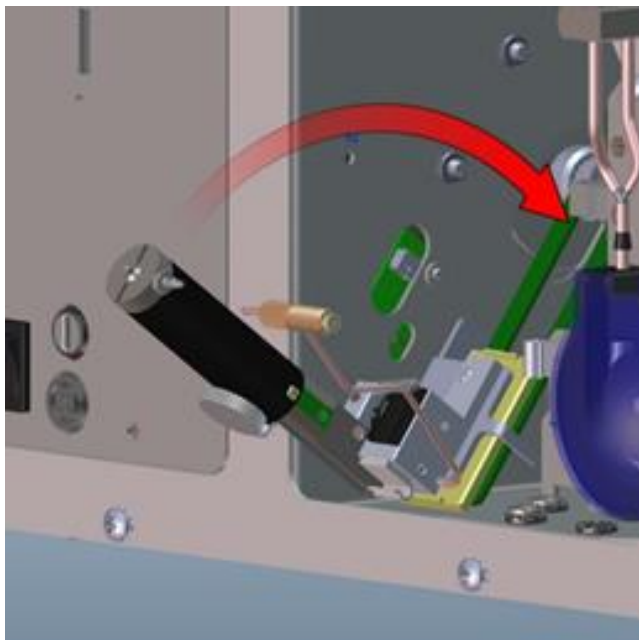
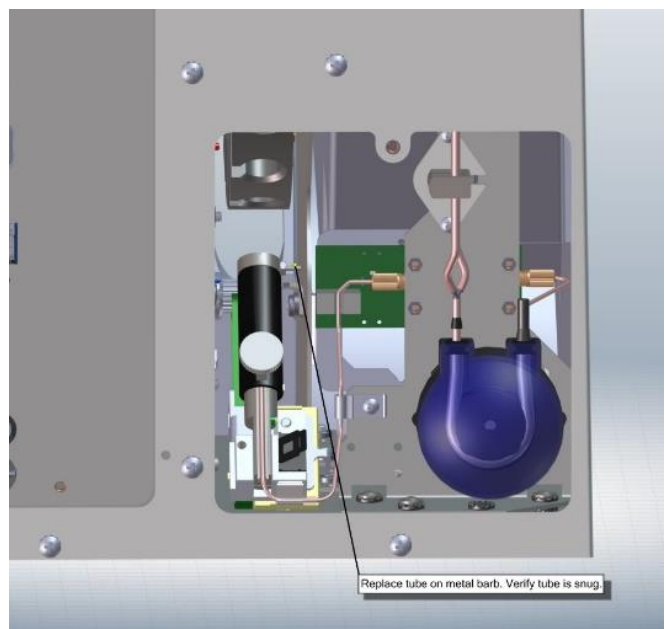

Figure 16
Figure 17
13. Pivot the Needle Piston Assembly back into the operational position (Figure 16). Replace the Washing Tube back onto the Barb connector of the Needle Tube Housing (Figure 17).